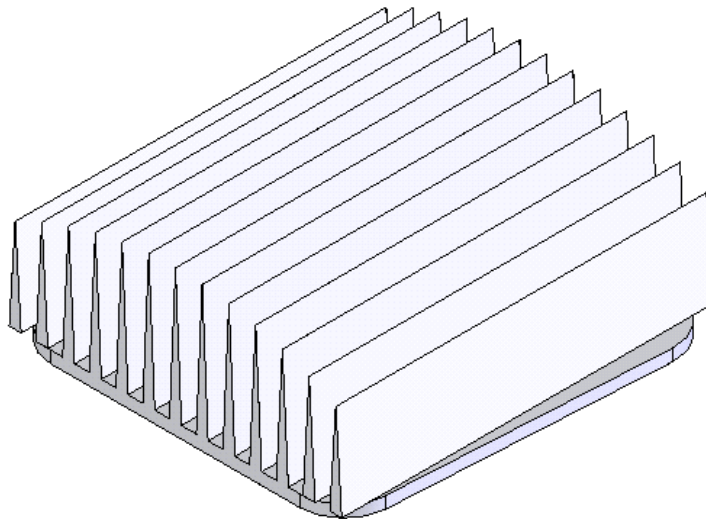

Figure 7-91 Model after patterning the fin of the cylinder head
- f. Pattern the fin to get the required number of fins. This pattern feature will be created using the vary sketch option, refer to Figure 7-91.
The model after adding the pattern feature is shown in Figure 7-91.